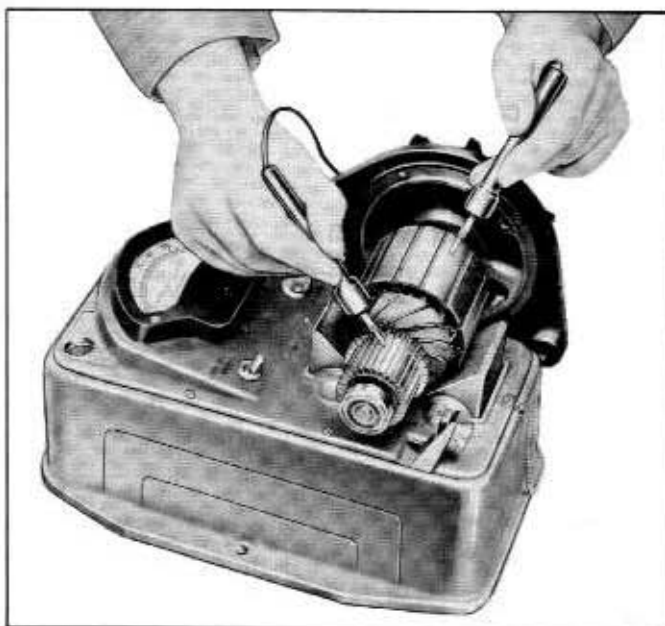

Fig. 9-9—Testing Armature for Short Circuit to Shaft (60C-7668)
5. Check armature for short circuit to shaft by placing one test prod from a test light instrument (a series connected light and battery will be satisfactory if a commercial test instrument is not available) to the armature shaft and the other test prod to one of the commutator segments. See figure 9-9. Lighting of the test lamp will indicate a short circuit of the armature winding to shaft. Replace armature if short circuit is indicated.